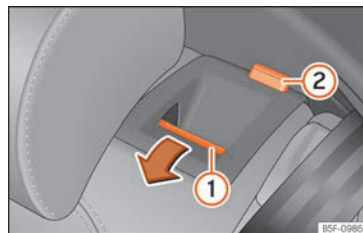

Fig. 123 Rear seat: folding the backrest.
- Press the unlock button » **Fig. 123 ①** forwards and at the same time fold the backrest down. The rear seat backrest is not engaged when the red marking of the button **②** is visible.